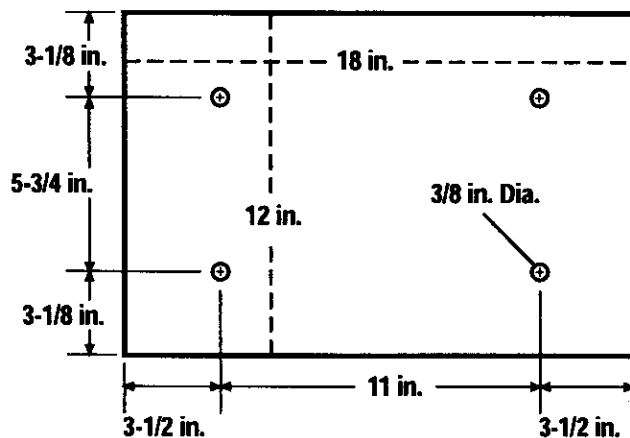

Fig. 9
See Figure 9.
- Mount saw to board using holes in frame as a template for hole pattern or the diagram in Figure 9. Locate and mark the holes where band saw is to be mounted.